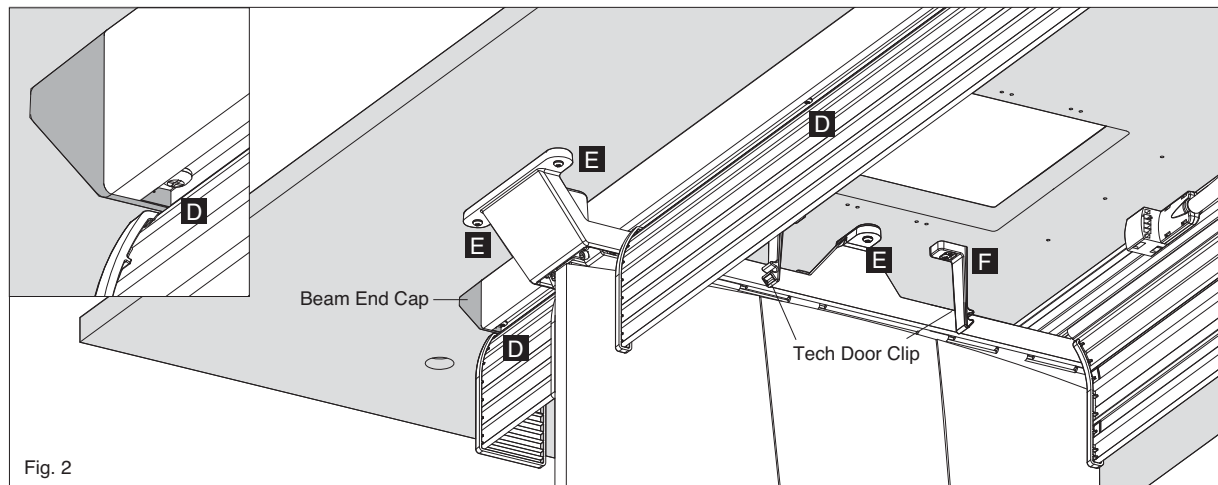

Fig. 2
**Start screws (D) through beam** end caps and beams in to pilot holes in the table top. After all beam screws are started, finish tightening all beams screws from the center to the ends. See Fig. 2.
**Install screws (E)** through bracket casting holes into pilot holes in the table top. (6 screws/bracket). See Fig. 2.
**Install each door clip** with screws (F) into pilot holes in the table top. (2 screws/clip). See Fig. 2.